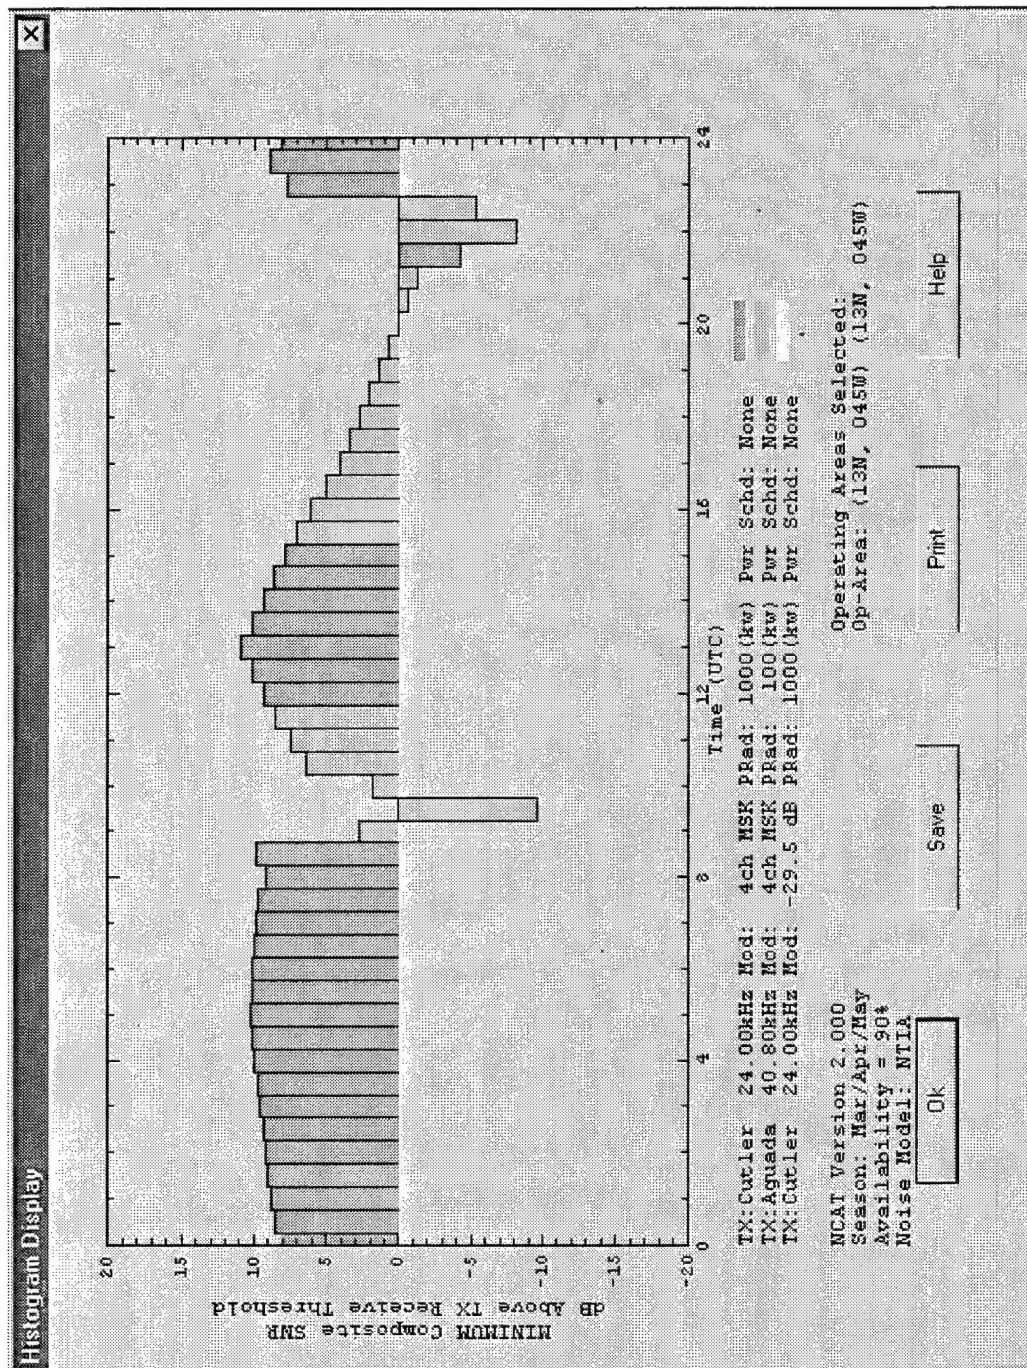

Figure 20. Example of a minimum composite SNR plot.
- A minimum composite SNR plot of the selected operating areas and transmitters selected. To perform a minimum composite plot, select Run Scenario -> Show SNR Composite (MIN)... Figure 20 is an example of a minimum composite SNR chart.